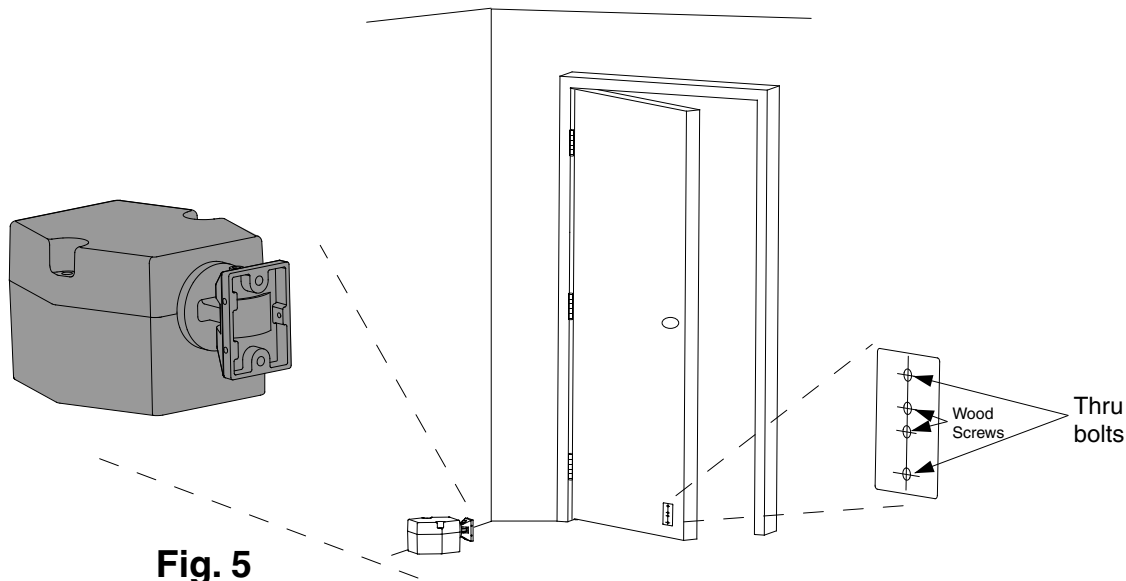

Fig. 5
- B. See Fig. 5. Place the armature against the floor magnet. This is best done with power applied to the magnet. If power is not available, hold the armature in place by hand. The armature contact plate must fully cover the magnet. If the contact plate is not centered and flat on the magnet, reduced holding force will result.